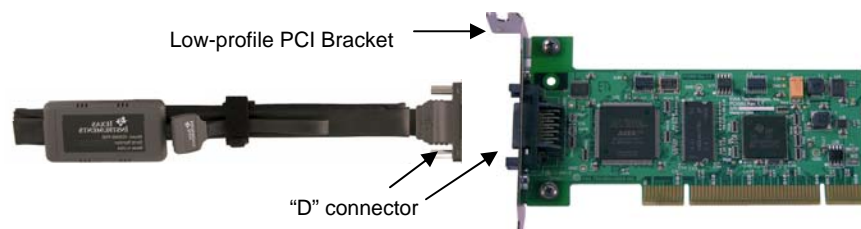

FIGURE 1 - **PCI560** with XDS560 JTAG Cable and Pod Assembly
3. Attach the JTAG cable assembly to the corresponding "D" connector of the **PCI560** (see Figure 1).